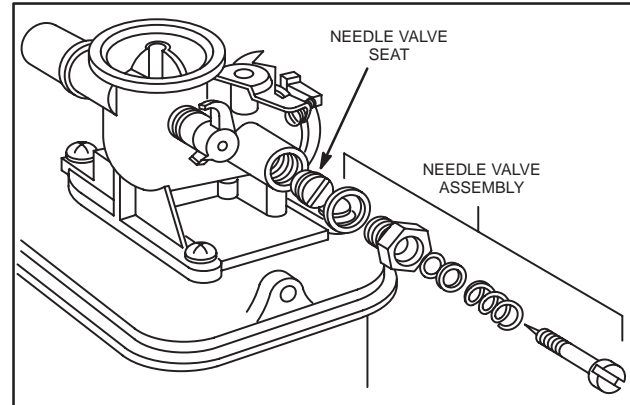

Fig. 246 – NEEDLE VALVE ASSEMBLY, SCREW-IN TYPE
2. Then install needle valve assembly, Fig. 246.